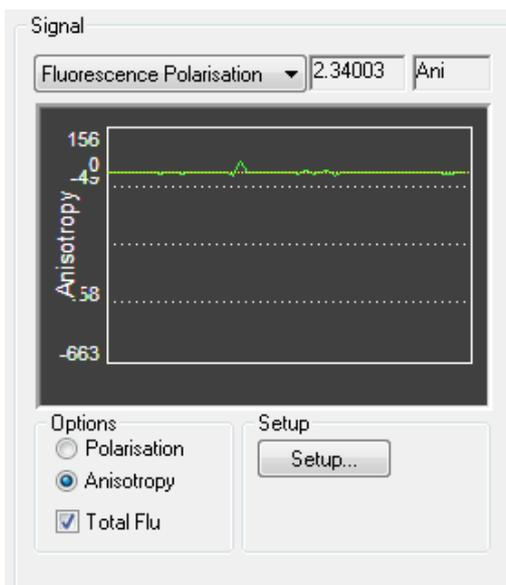

Figure 2.22: the Signal panel for fluorescence polarisation
4) Assuming that the SHU has been prepared as described in Section 2.3, on the **Signal** panel of the Pro-Data main window select **Fluorescence Polarisation** from the drop down list (Figure 2.22) and select the desired units (**Polarisation** or **Anisotropy**). The **Total Flu** box may also be ticked to record the total fluorescence signal as well as the polarisation.